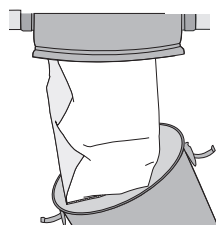

figure 6
1. To access the bag, unlatch the two clips and remove the dust receptacle (**figure 6**).